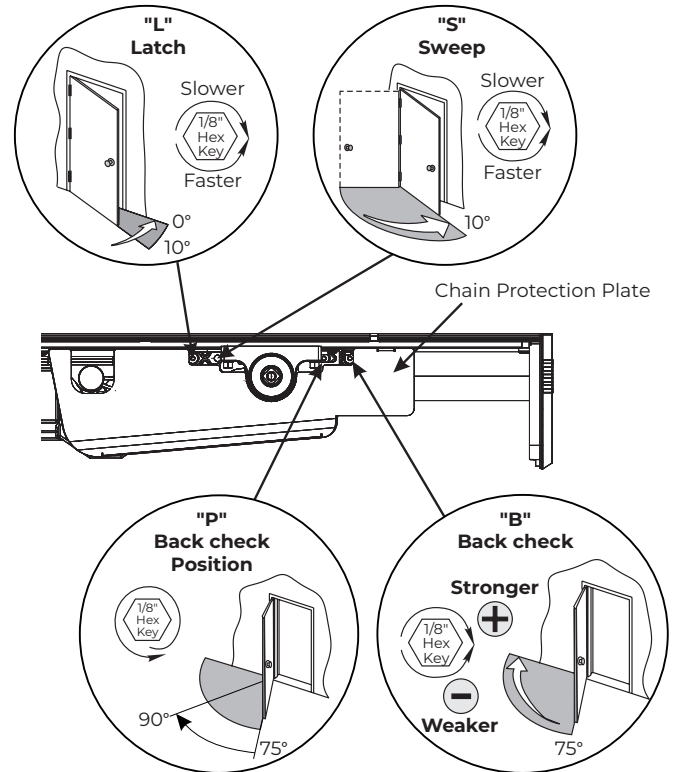

Figure 25 View from ceiling looking down
- Chain protection plate cutouts allow access to valves. Use hex wrench to make adjustments. (Figure 25)
1. Closing Speed Controls (Figure 25)
2. Opening Cycle (Figure 25)